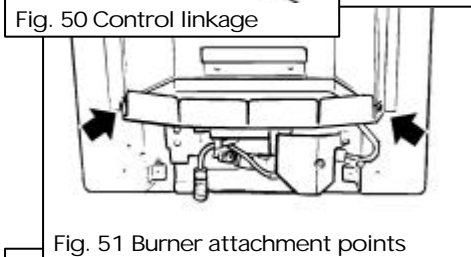

Fig. 51 Burner attachment points
13.7.5 Remove the burner assembly by removing the three fixing screws, one at each end of the burner tray and one next to the igniter unit (see figure 51). Carefully remove the burner assembly.